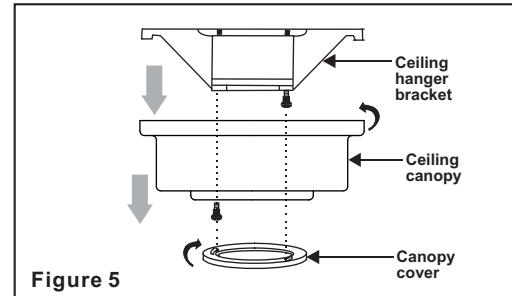

Figure 5
**Step 1.** Remove the decorative canopy bottom cover from the canopy by turning the cover counter clockwise.(Fig. 5)
**Step 2.** Remove the mounting bracket from the canopy by removing the 1 of 2 screws from the bottom of the mounting bracket and loosening the other one a half turn from the screw head. Next, turn the canopy counter clockwise to removing the mounting bracket from the canopy. (Fig. 5)